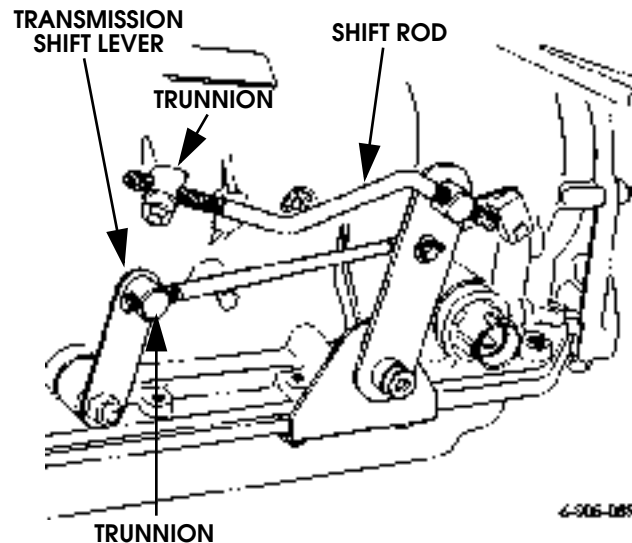

Figure 5-63: Transmission Shift Linkage
1. Move shift lever to manual low (1) range.
3. Verify that transmission shift lever (Figure 5-63) is in manual low (1) range. If not, disconnect lever trunnion and adjust trunnion in, or out as needed. Then reconnect lever rod to shift lever.